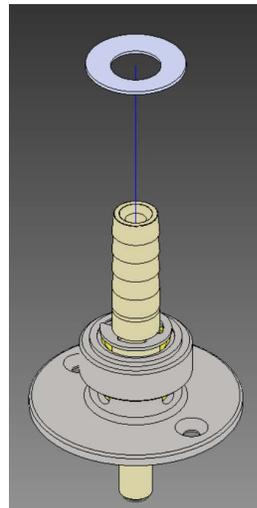

FIGURE F. 14. – SPRING WASHER INSTALLATION
4. Install the spring washer (see Figure F.14.). Note the orientation of the spring washer.